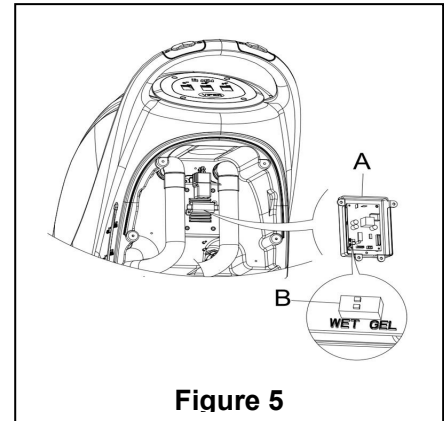

Figure 5
2. Take off draining hose (15)
4. Take off the control cover (5), and the screws of the battery cover (10). Remove the screws on the PCB stand. The DIP switch (B) for setting the battery model can be seen when flipping over the PCB board. (See **Figure 5**)
5. Adjust the micro DIP switch (B) to the position of "WET",